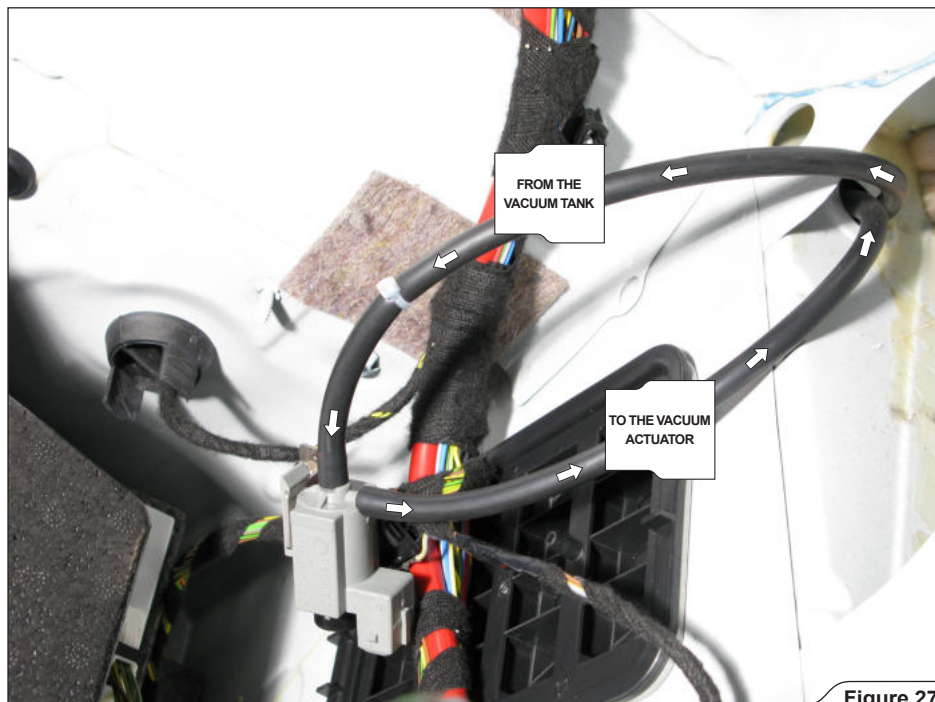

Figure 27
18. Correctly link the vacuum hoses to the electromagnetic valve, as shown (Figure 27).